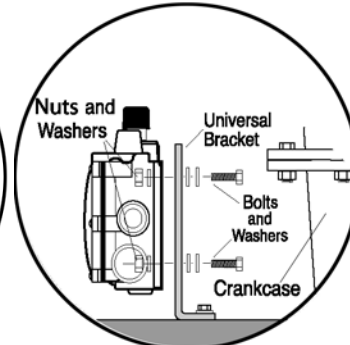

Figure 3B
2. Mount the LM500 to the universal bracket using two 1/4-20 UNC x 1-1/4 inch (32mm) bolts; flat and lock washers supplied (Figure 3B). DO NOT tighten the adjustment screws too tight as you will have to adjust the LM500 later in the installation process. Refer to “Connecting Fittings and Hoses” for information regarding height adjustment of the LM500 in alignment with the oil level in the crankcase.